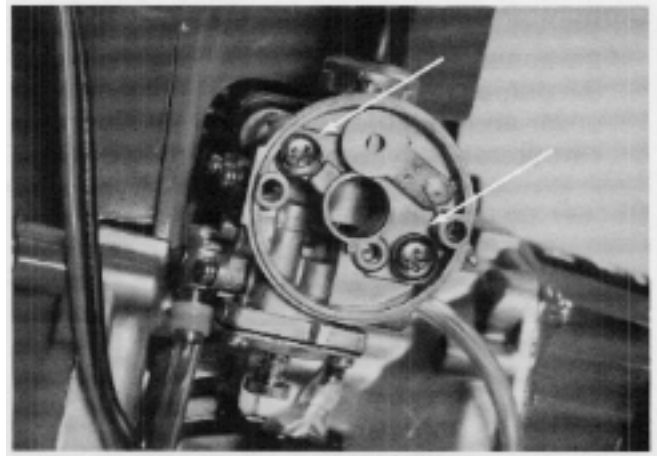

Figure 18
2. Pull from the carburetor the overflow line and the fuel feed line. Remove the carburetor with attached throttle wire. Next, remove the 2 screws with lock washers, that secure the carburetor onto the intake flange. See Fig. 18.